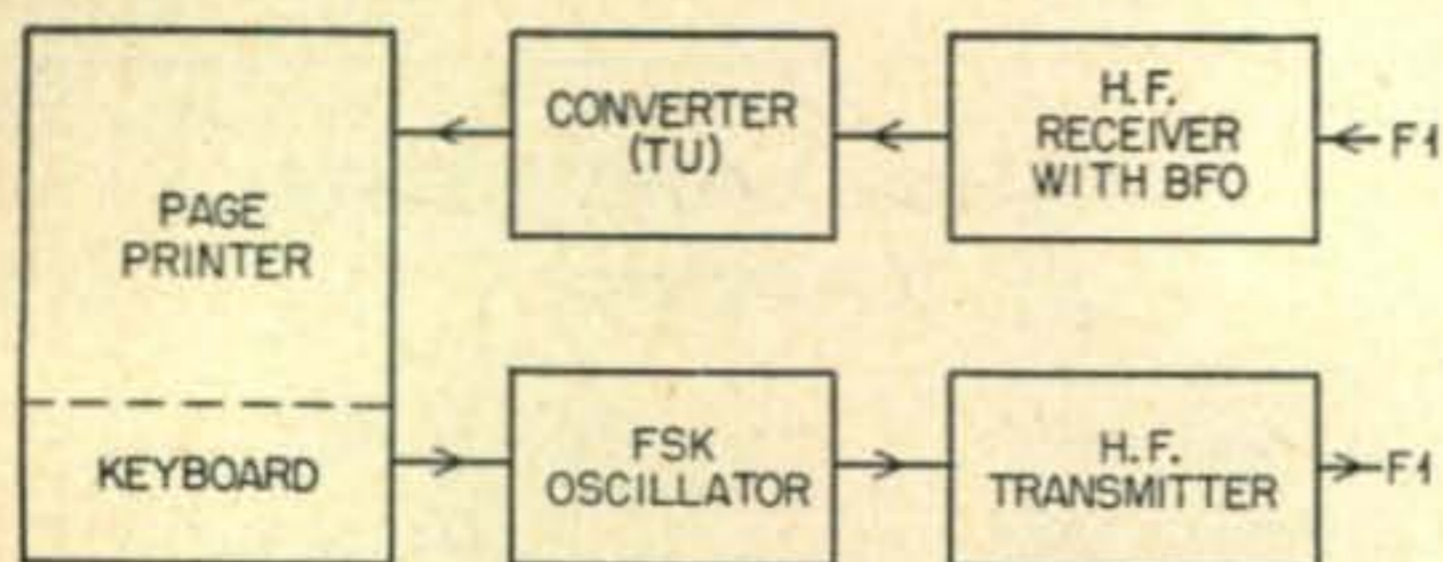

Fig. 1—FSK Radioteletype Station, Block Diagram.
and operated? In two general ways: A station operated on the lower frequency bands, 80, 40, 20, and 15 meters is permitted to use frequency-shift-keying (FSK) in the "CW exclusively" parts of those bands. While any shift below 900 cycles is allowed the standard shift of 850 cycles is generally used. The transmitter v.f.o. is frequency-shifted by the keyboard to produce the desired shift at the carrier frequency. The receiver usually has a b.f.o. which is adjusted to produce beatnotes of the standard tones, 2125 cycles for *mark* and 2975 cycles for *space*. The tones are then fed to a converter, or terminal unit (TU), which converts the tones into d-c pulses for the machine. Fig. 1 shows a block diagram of an FSK station.
Fig. 1. Present trend of Sunspot Cycle 19 which began May, 1954. Maximum of cycle is now forecast for March, 1957 and solar activity throughout 1957 is expected to be greater than smoothed sunspot number 156.
sions in more than 200 years has the sunspot cycle exceeded a smoothed sunspot number of 150, so 1957 may truly be called a year of "once in a lifetime conditions". *Figure 1* traces the progress of the present sunspot cycle, and shows the level of solar activity expected throughout 1957.